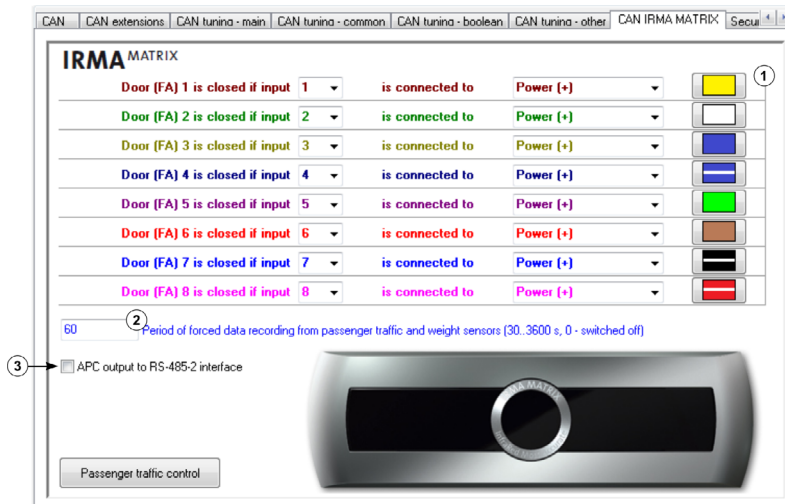

Fig.42. “CAN IRMA MATRIX” tab.
Go to the “CAN IRMA MATRIX” tab and enable CAN IRMA MATRIX option, if it is disabled. After that you will see menu for customizing of sensor operation (Fig.42).
Press a shortcut button (Fig.42, item 1) to go to the necessary tab: “Inputs 1-4” or “Inputs 5-8” tabs.
**“APC output to RS-485-2 interface” option** (Fig.42, item 3) provides transmission of data collected with passenger counting sensors to external device, connected to the AutoGRAPH device via RS-485-2 bus.